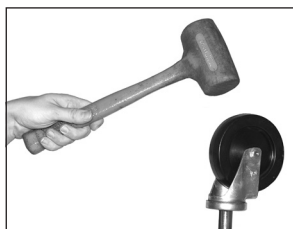

Figure 1d
- B. Insert caster stem into bottom of each post. Drive in caster using a hammer or mallet (see Figure 1d).